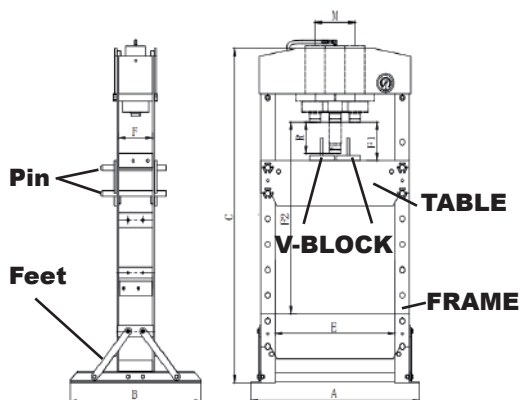

Fig. 02
- During moving the machine, make sure to use the proper lifting equipment and follow the instructions as shows (Fig. 02).